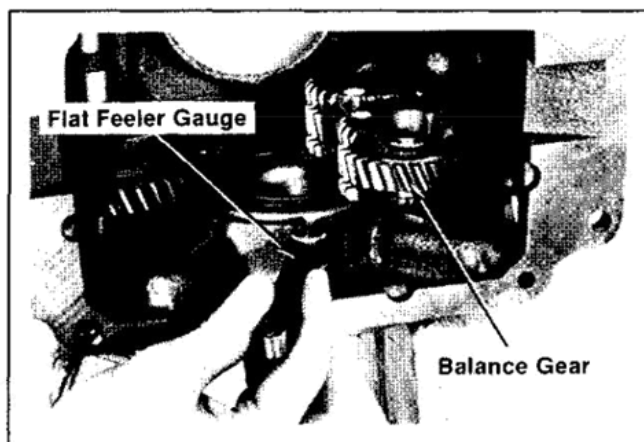

Figure 12-10. Measuring Balance Gear End Play.
2. Check end play with a flat feeler gauge. Refer to Figure 12-10. Recommended end play is .002" / .010". If end play is not within range, install or remove .005" and .010" spacers\*, as necessary.